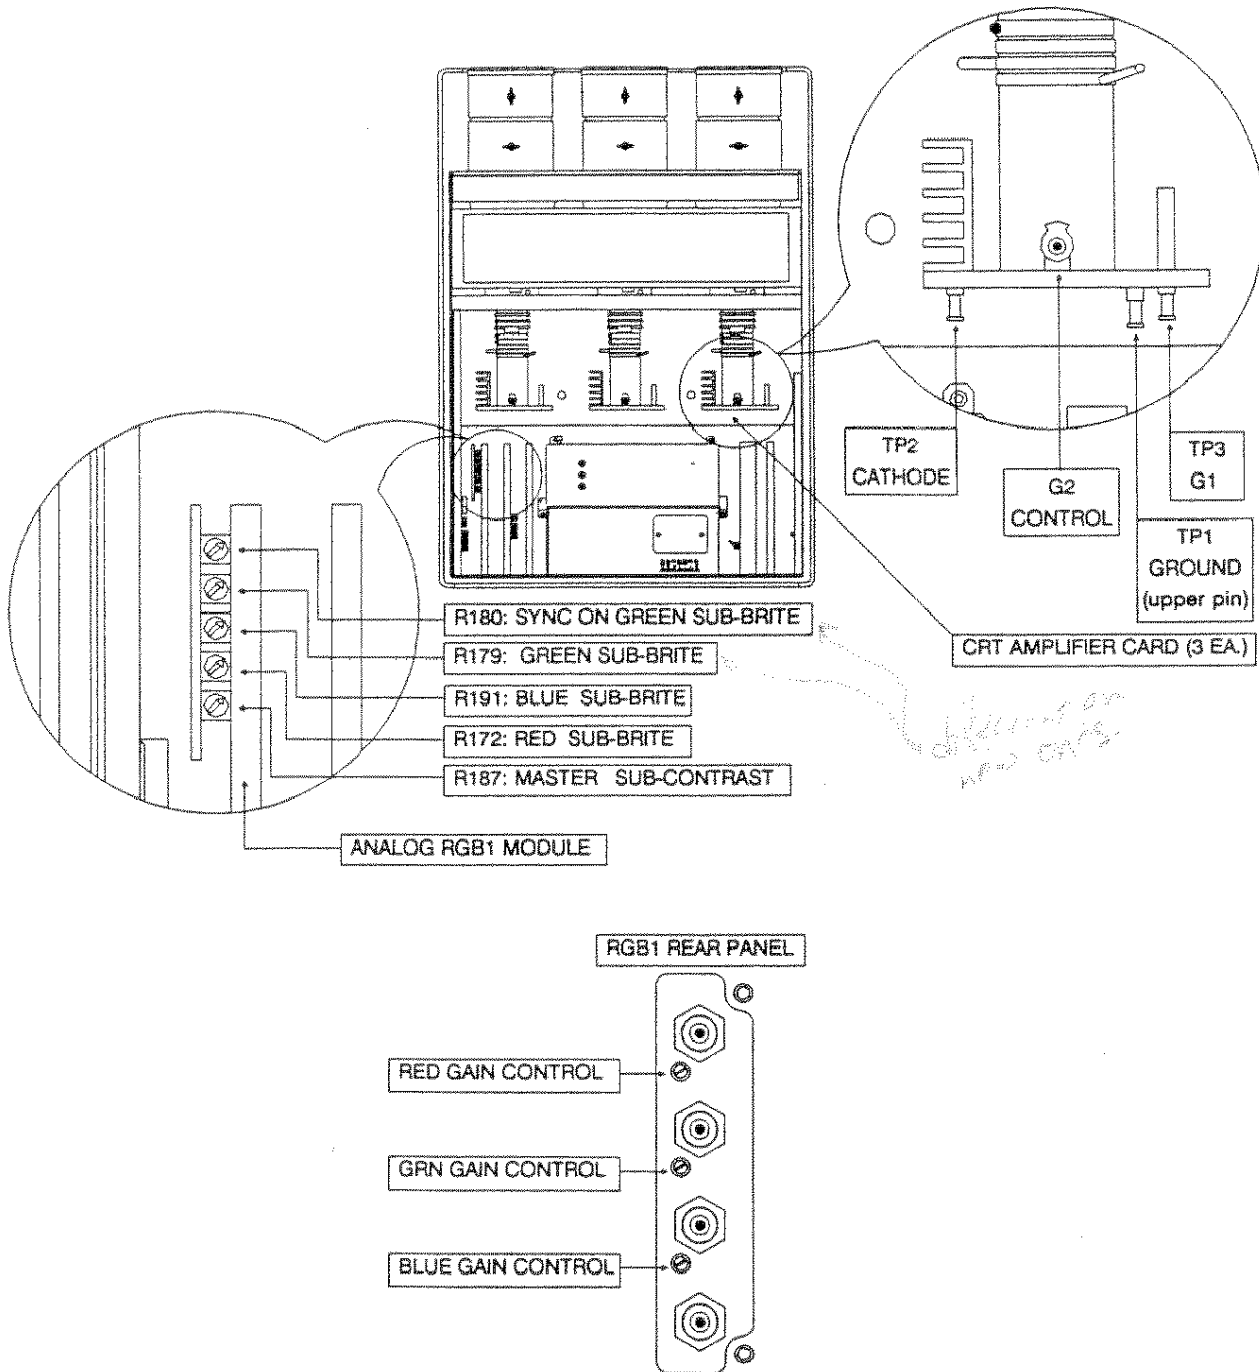

FIGURE 3-9. RGB, CRT CARD LAYOUT AND DESCRIPTION.
- Board settings: set Red, Green and Blue Gain Controls on rear of RGB1 module to max (clockwise). See Figure 3-9.
- STEP 3. Connect your external source and readjust the rear panel gain controls to achieve a proper color balance of your displayed image. Refer to Figure 3-9.